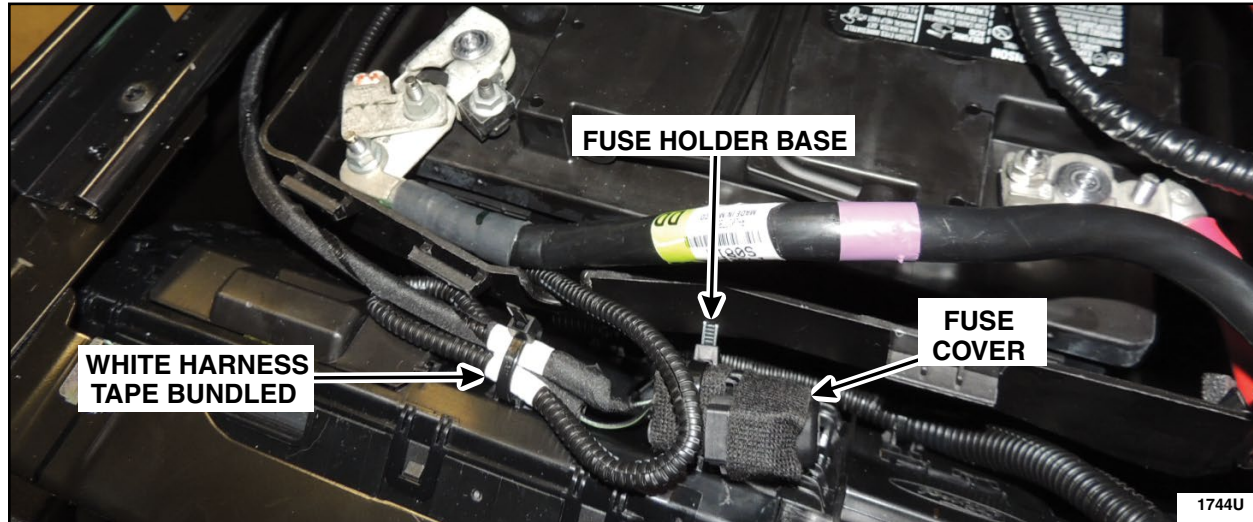

FIGURE 24
3. Create a loop on the ground eyelet wire near the inline fuse holder so the three white pieces of tape are bundled together and secured with the outboard tie-strap. Using the inboard tie-strap, attach the base of the fuse holder to the auxiliary battery fuse panel cover. Cut off and remove the extra length of the tie-strap. See Figure 24.